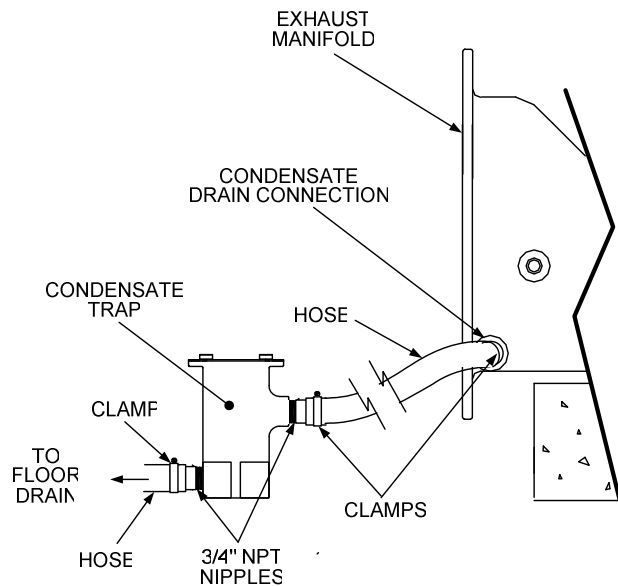

Figure 4. Condensate Trap Location
1. Disconnect the condensate trap from the exhaust manifold (Benchmark 1.5LN, or 2.0LN) or connecting manifold (Benchmark 3.0LN only) by loosening the hose clamps or fittings used in your installation. Figure 4 shows a sample connection for a Benchmark 2.0LN model.
2. Remove the connections on the inlet and outlet sides of the condensate trap shown in Figures 4 and 5.